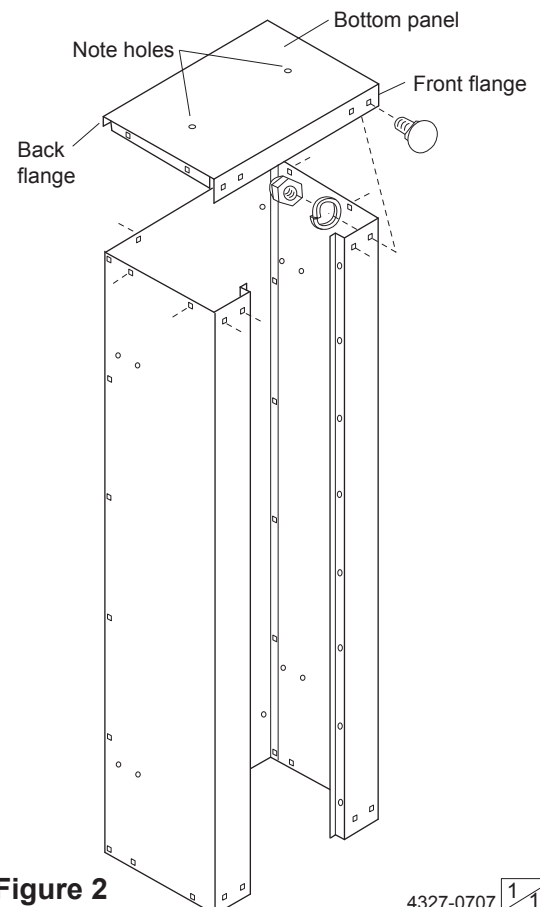

Figure 2
2. Keep the assembly standing up as shown. Locate the bottom panel (the one with 2 holes in the center of the panel) and place it on the sides and back assembly. The front and back flanges of this panel must be on the outside of the cabinet. (See figure 2)